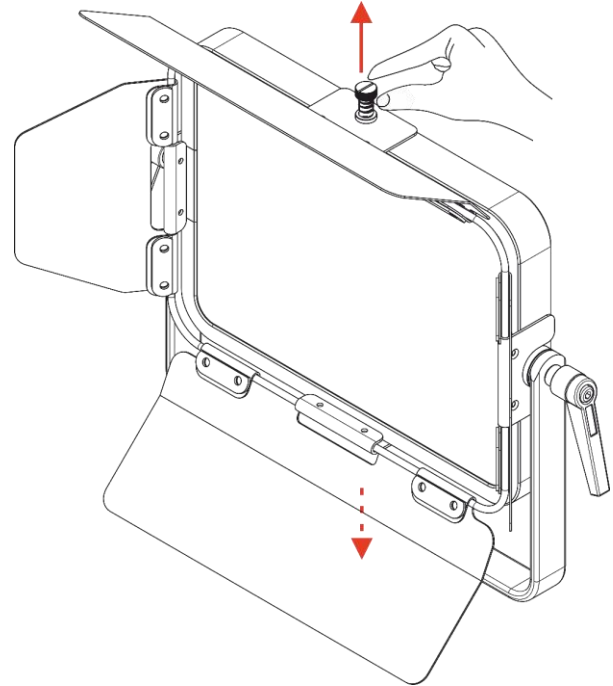

Fig. 09
- 02) Hold the spring-loaded clip and pull it upwards on the top of the device and pull it downwards at the bottom (see Fig. 09).